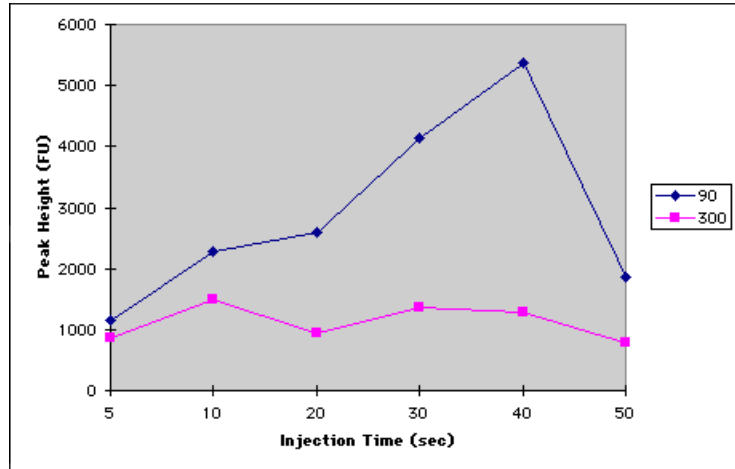
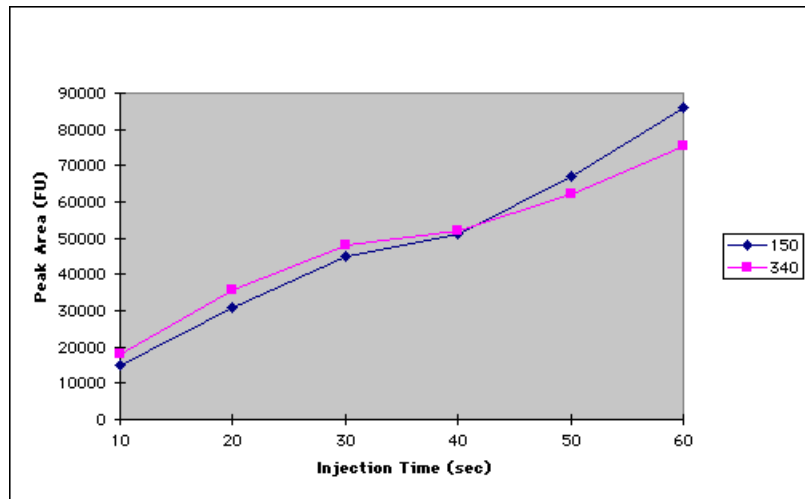

Figure 5-1 Peak height vs. injection time for two different-sized fragments (90 bp and 300 bp)
Figure 5-2 Peak area vs. injection time for two different-sized fragments (150 bp and 340 bp)
- ♦ Signal strength (as measured both by peak height and by peak area) increases linearly with increasing injection time for most applications (Figure 5-1 and Figure 5-2 on page 5-5).
- ♦ However, an n-fold increase in injection time does not result in an n-fold increase in peak height. In Figure 5-1, no improvement is seen after 10 seconds for the larger fragment. The signal decreases dramatically after 40 seconds for the smaller fragment.